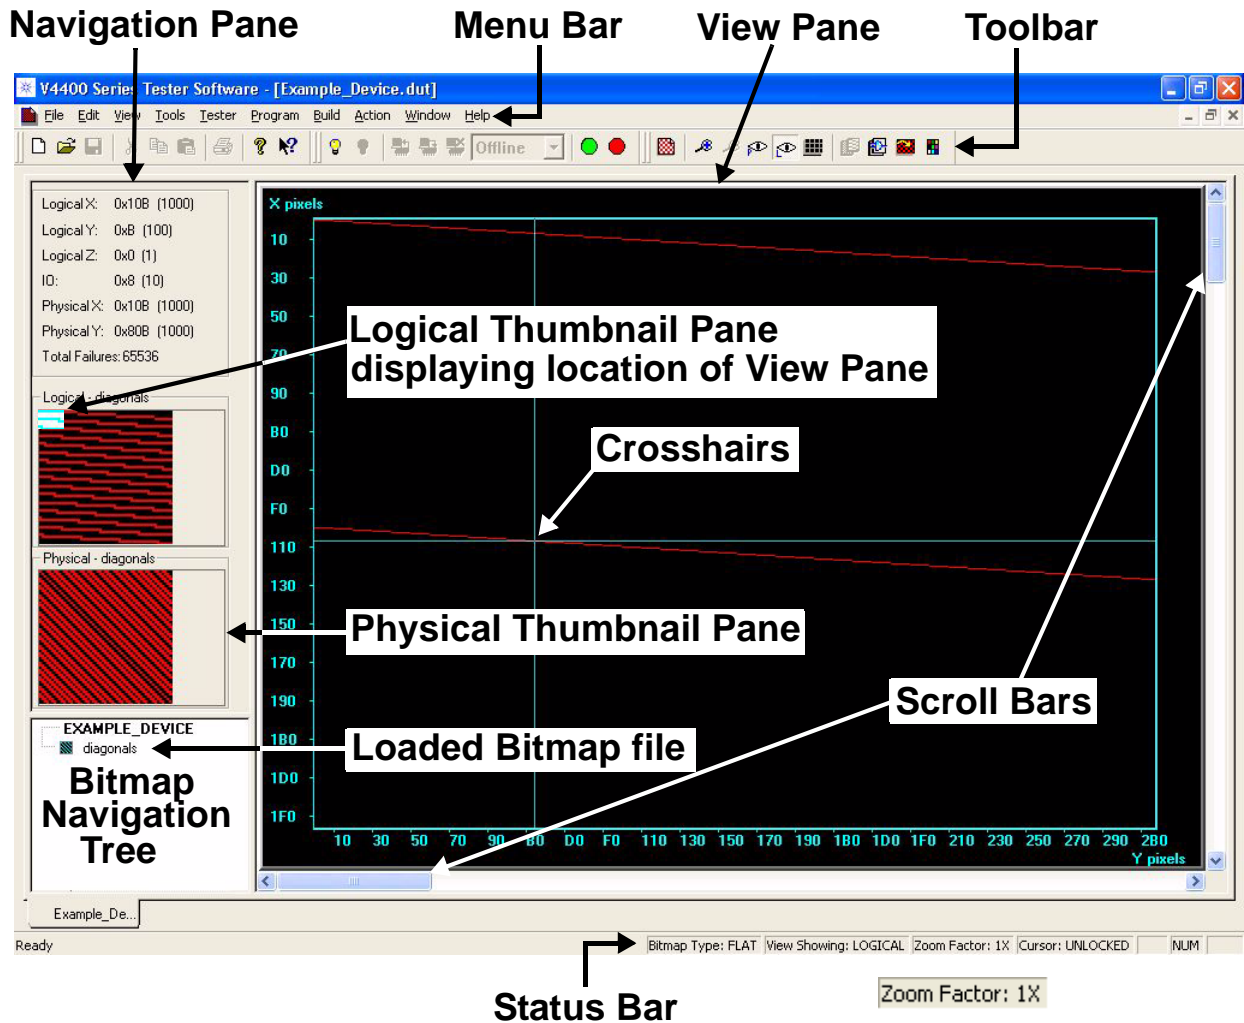

Figure 8-66. Bitmap File Loaded Displaying Logical Format
- 2 Selecting the `diagonals.HBM` file and then **Open** displays the bitmap file in the default logical format (Figure 8-66). This bitmap was created to display diagonal failures. The passing bits are in black, and the failing bits are red.
- **Thumbnail Pane:** Shows a thumbnail of the logical and physical layouts of the device. The highlighted area in the thumbnail indicates the current coverage area you are seeing in the View Pane (Figure 8-66). You can view other areas in the bitmap by using the scroll bars or clicking on an area in the Thumbnail pane.
- **Zoom Factor:** The `Zoom Factor: 1X` shown in the Status Bar in Figure 8-66 means every pixel you see represents one pass or fail bit.